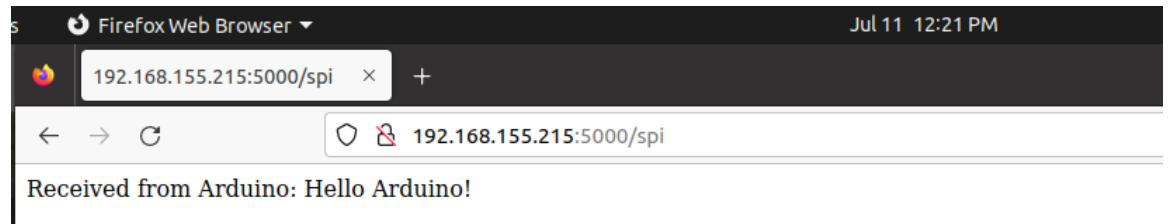

Figure 1.6.7.1: Website
1.6.7. In the website loaded by the IP address of Vaman-ESP32 is to establish a WiFi connection, exchange data with a server using the SPI protocol, handle received data, and communicate with the server using HTTP requests as shown in Fig. 1.6.7.1.